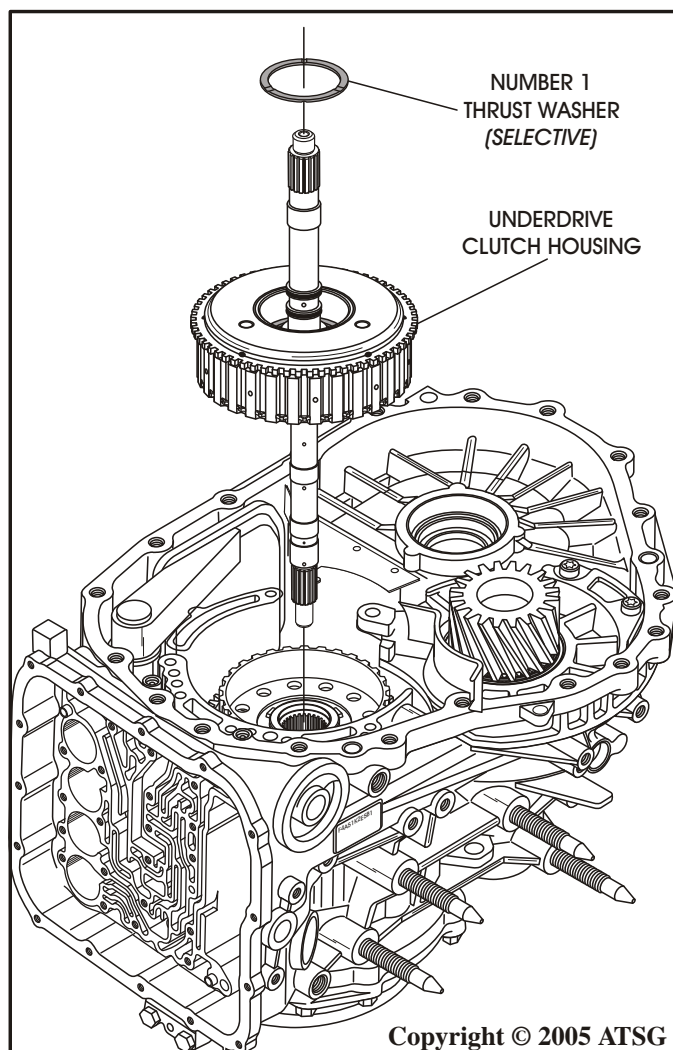

Figure 197
90. Install the underdrive clutch housing and the number 1 selective thrust washer, as shown in Figure 197.